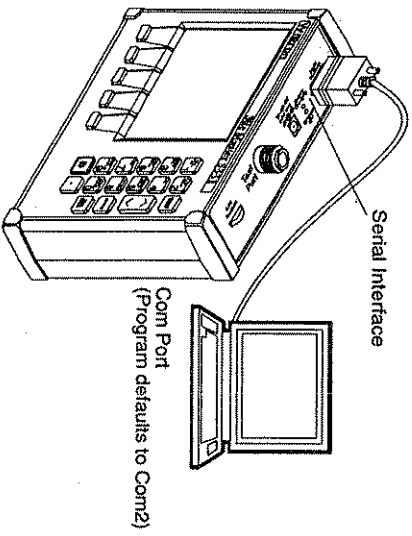

Figure 3-3. Equipment Setup for Siemaster Tools Operation
- Step 1.** Connect the supplied cable as shown in Figure 3-3.